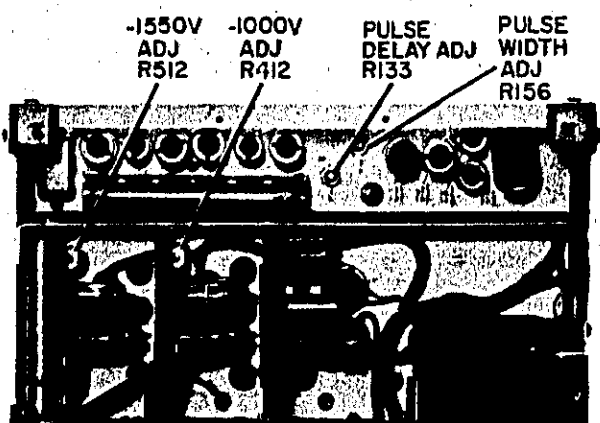

Figure 5-7. Location of Power Supply and Modulator Adjustments
e. Adjust potentiometer R412 (Figure 5-7) for -1000 ± 20 volts. Line voltage regulation ($115\text{ V} \pm 10\%$) should hold the -1000 V supply to within $\pm 5\text{ V}$; ripple should be less than 10 mV , p-p. The -300 V supply should track the -1000 V supply to $-300 \pm 10\text{ V}$. Line voltage regulation ($115\text{ V} \pm 10\%$) should hold the -300 V supply to within $\pm 5\text{ V}$; ripple should be less than 10 mV , p-p.
g. Adjust potentiometer R512 (Figure 5-7) for $-1550 \pm 20\text{ V}$. Line voltage regulation ($115\text{ V} \pm 10\%$) should hold the -1550 V supply to within $\pm 5\text{ V}$; ripple should be less than 15 mV , p-p.